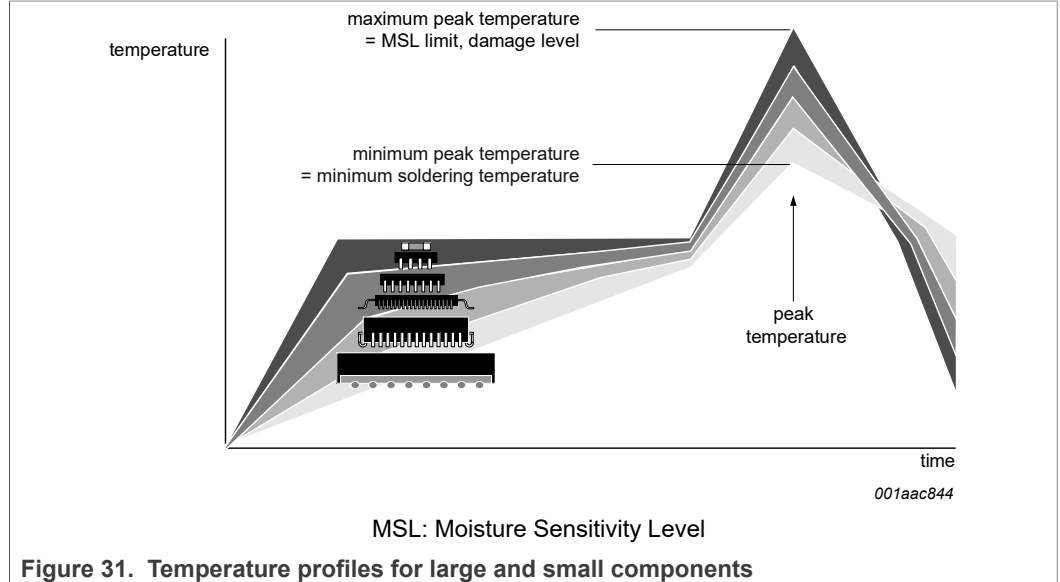

Figure 31. Temperature profiles for large and small components
- Lead-free versus SnPb soldering; note that a lead-free reflow process usually leads to higher minimum peak temperatures (see Figure 31) than a SnPb process, thus reducing the process window
Studies have shown that small packages reach higher temperatures during reflow soldering, see Figure 31.